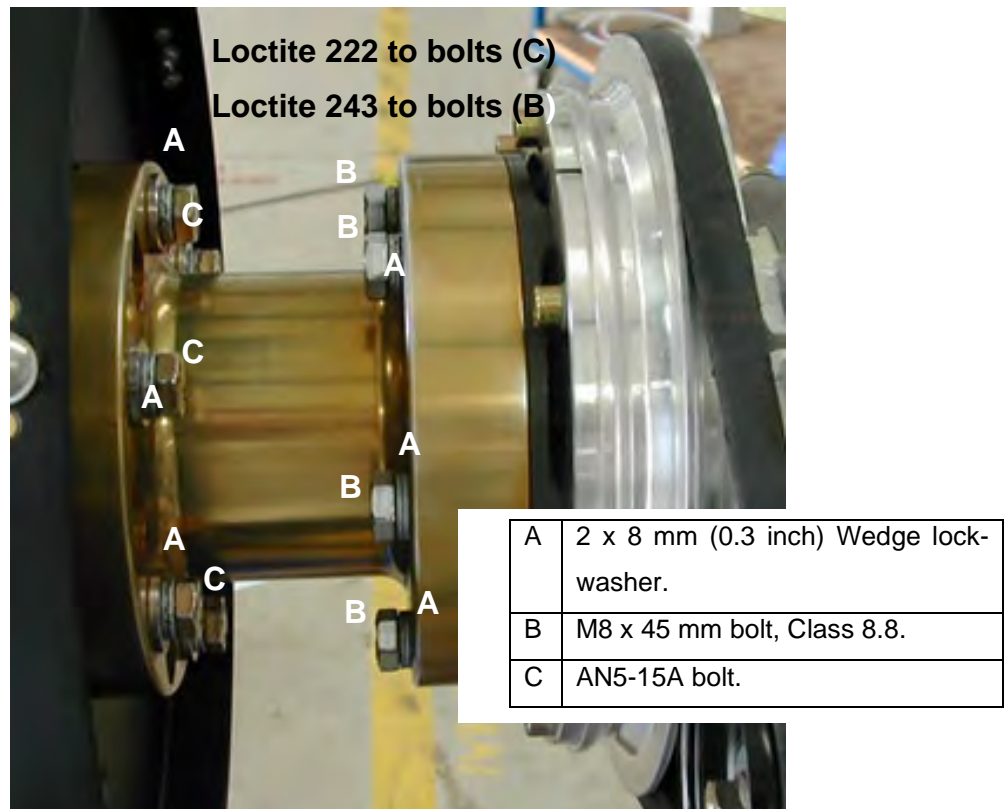

Figure 52: Airmaster propeller installation (external alternator fitted).
- Observe correct washer placement (refer to Figure 52).